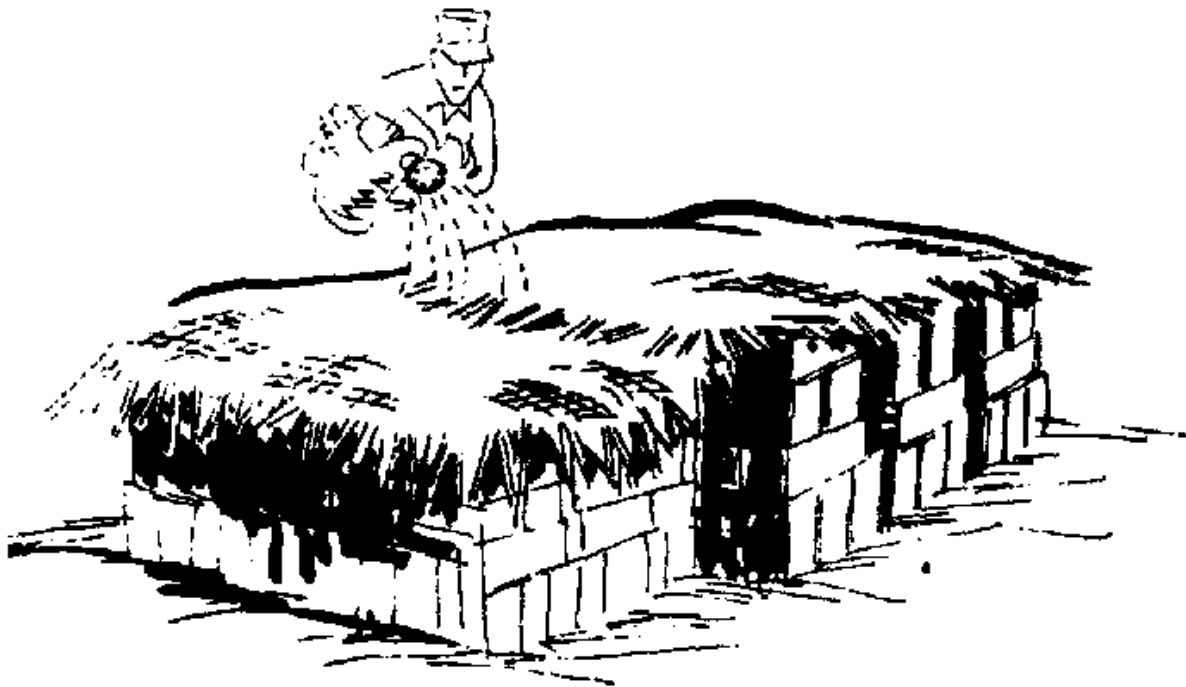

Figure 58.
3. If stabilizers such as lime or cement are used, cover the blocks with wet cloth or straw as soon as the molds are removed. Keep them moist for seven days and then turn them on edge to complete the curing. (See Figure 58, Chapter 9.)
A wet cure period is necessary for *stabilized* blocks to gain strength, particularly if they contain cementing type **stabilizers**. (See Chapter 2.) During the wet-curing period, blocks should be stood on end and covered with wet sacking, leaves, or other material as shown in Figure 58 so they can be kept moist. After curing, the covering is removed and the blocks are stacked while they dry.